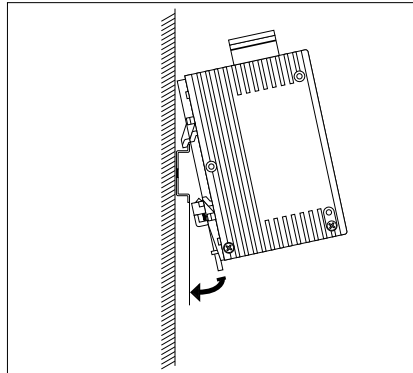
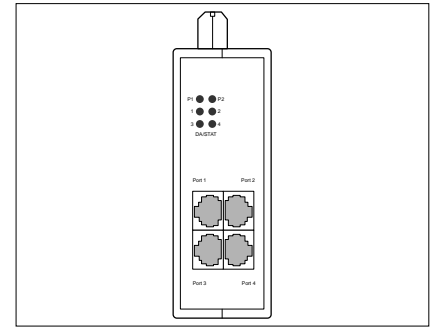

Fig. 7: Assembling the Hub 10 Mbps 4TP
Fig. 8: Dismantling the Hub 10 Mbps 4TP
- Suspend the upper snap-in hook of the Hub 10 Mbps 4TP on the ISO/DIN rail, insert a screwdriver horizontally under the housing into the locking slide pull this downwards (see Fig. 8, dismantling) and press the bottom of the module onto the ISO/ DIN rail until it locks in position (Fig. 7).